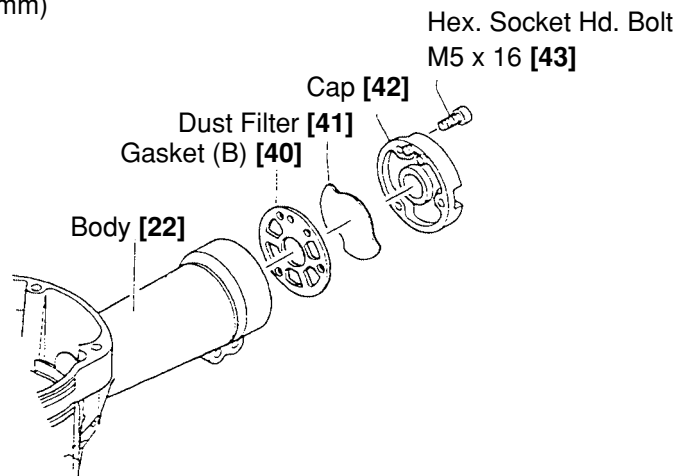

Fig. 19 Disassembly and reassembly of the cap
(1) Disassembly and reassembly of the cap (See Fig. 19.)